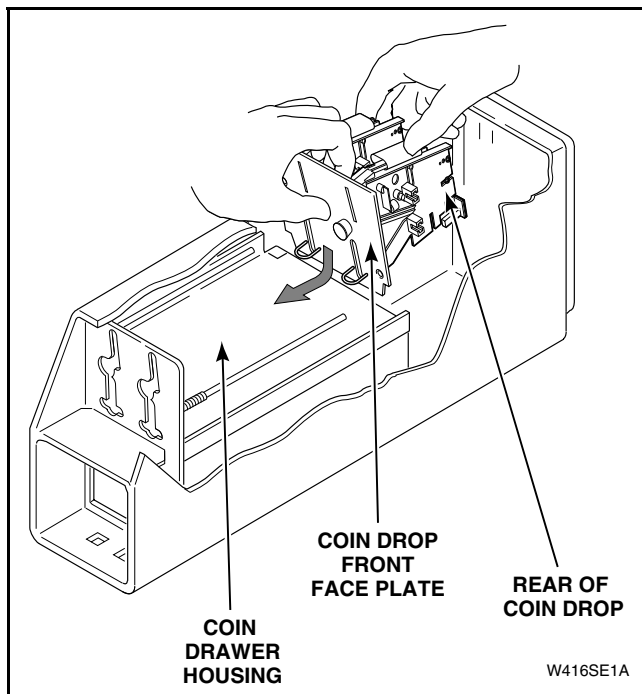

Figure 23
- (5) Lift up front face plate of coin drop with one hand, while gently pushing down rear of drop with other hand, so the bottom of the drop's front face plate clears coin drawer housing. Refer to *Figure 23*.